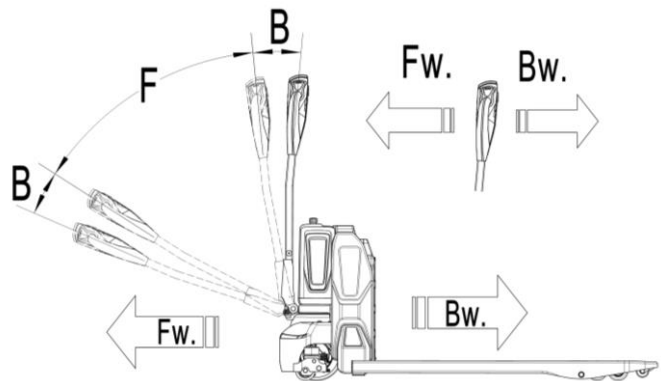

Fig. 9: Travel direction definition
Turn the accelerator (20) to the desired direction forward 'Fw.' or backwards Bw.' (Fig. 9).